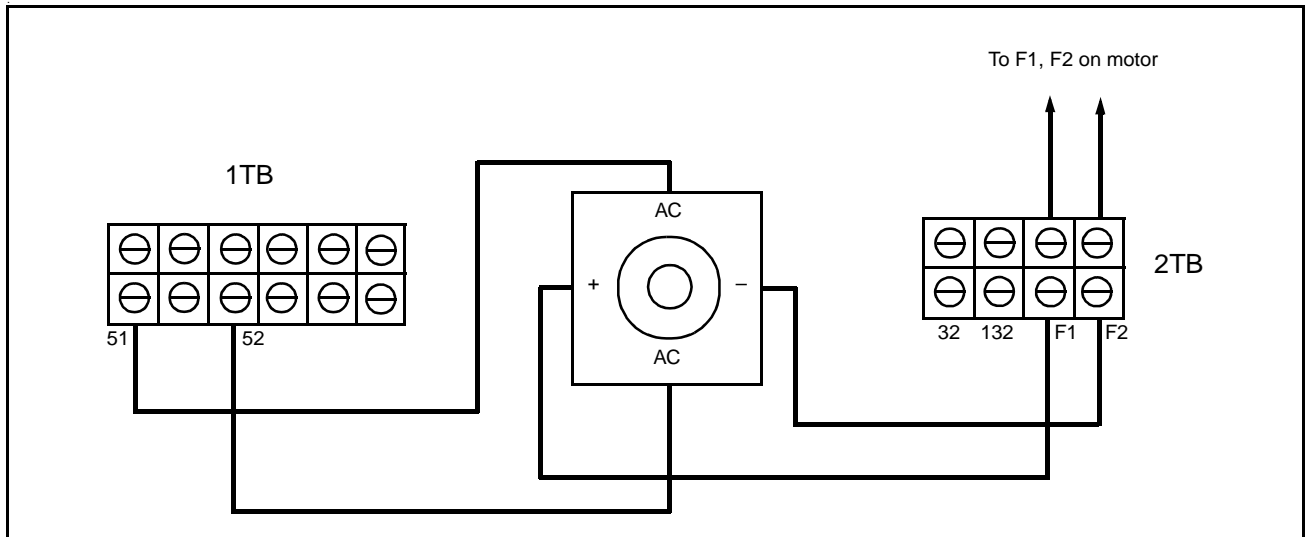
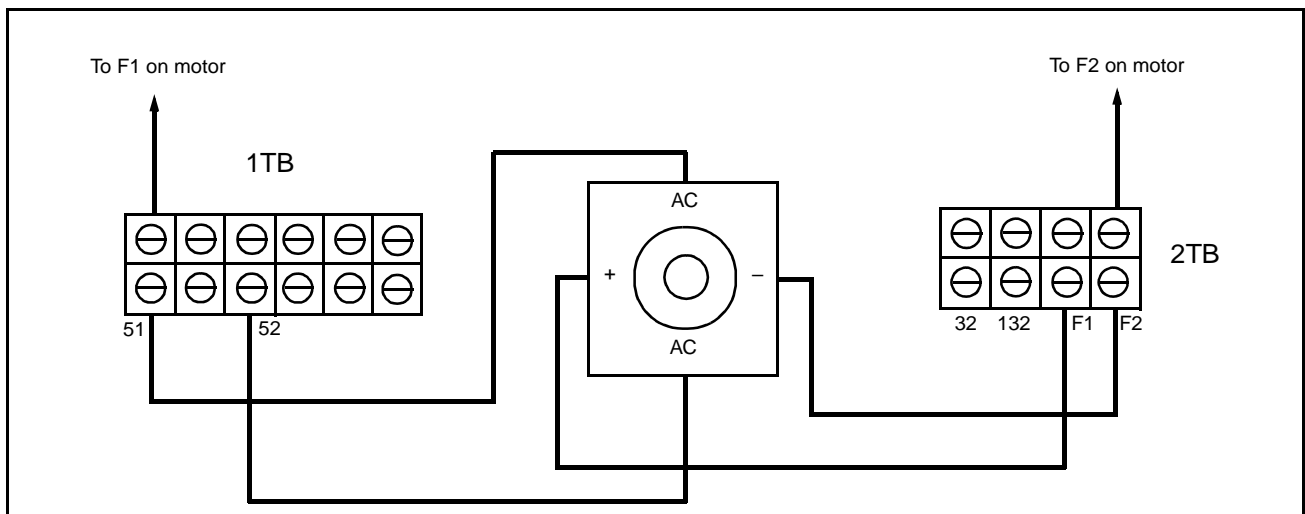

Figure 3 – Connecting the Field Supply (Full-wave)
Figure 4 – Connecting the Field Supply (Half-wave)
- Step 8. Connect wire harness 51/52 to terminal block 1TB. Connect wires F1 and F2 from the Field Supply to terminal block 2TB. Refer to figure 3 (full-wave supplies) or figure 4 (half-wave supplies). Use the fasteners removed in step 6 to mount terminal block 2TB to the drive where terminal block "32/132" was previously mounted.
Step 10. **For a full-wave supply**, connect the motor field wires to terminals F1 and F2 on Field Supply terminal block 2TB. See figure 3.
**For a half-wave supply**, connect motor lead F1 to terminal 51 on 1TB and motor lead F2 to terminal F2 on 2TB. See figure 4.